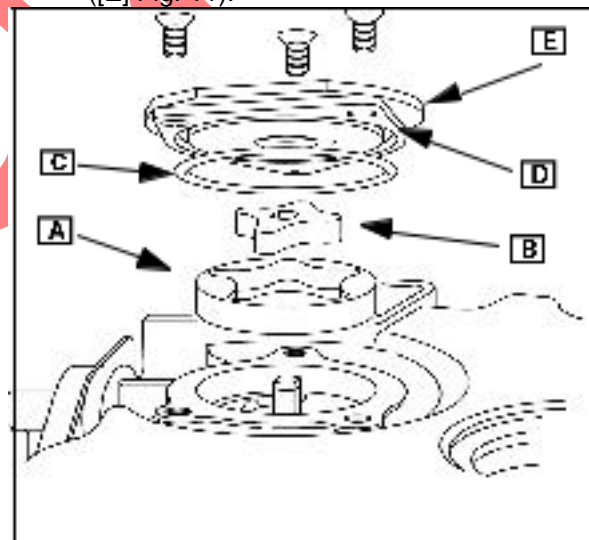

Fig. 11
Oil and install outer (A) and inner rotor ([B] Fig. 11) in pump cavity. Do not use force to install and turn the rotors to engage the pump in the cam or governor gear.
Place O-ring (C) in groove (D), in cover ([E] Fig. 11).